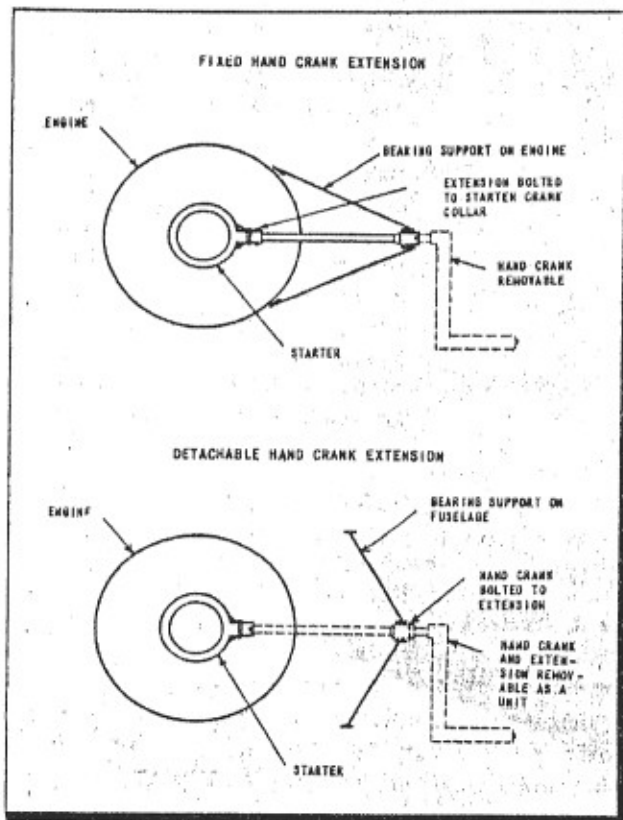
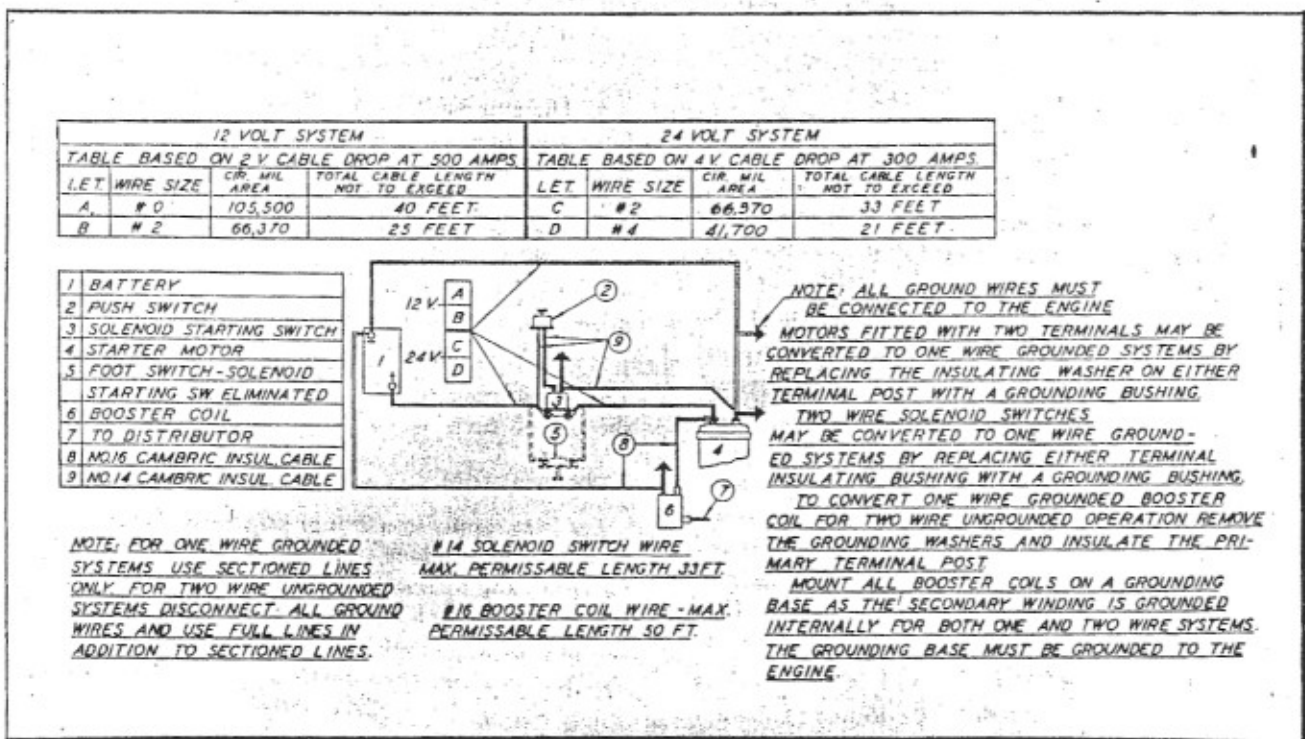

Figure 6—Installation of Hand Crank Extension
Figure 7—Typical Wiring Diagram for E-80, F-141, Y-150, and E-160 Starter
(1) If the engine is rigidly mounted to the fuselage or nacelle, the external mounting support bearing should also be rigidly mounted regardless of the type of extension used. When used on a shock mounted engine the bearing can either be rigidly mounted to the engine or shock mounted on the fuselage. (See figure 6.) In any case, it is recommended that a self-aligning ball bearing be used on all installations taking care to provide for lubrication of the bearing.
(2) Should a plain bronze bearing be utilized for supporting the hand crank extension, it is recommended that the length of bearing surface be kept as short as possible and that a clearance of .005 inch be maintained between the OD of the extension sleeve and the ID of the bearing.
(3) Care should be taken that the alignment of the extension shaft is as accurate as possible in order to facilitate hand cranking and prevent undue strain on the starter housing during hand crank-operation.
d. See figures 7 and 8 for proper cable sizes.
A direct starting switch of the foot type, or a remotely controlled solenoid switch, may be employed to control the starters. In either case, refer to the typical wiring diagrams (figures 7 and 8), for all wire sizes and connections. Details regarding the installation of control switches and the booster coil, if used, should be obtained from the chapters covering the individual units. To insure a hot spark during the cranking period, a booster coil is recommended for use with starters to supplement the spark of the engine magnetos.